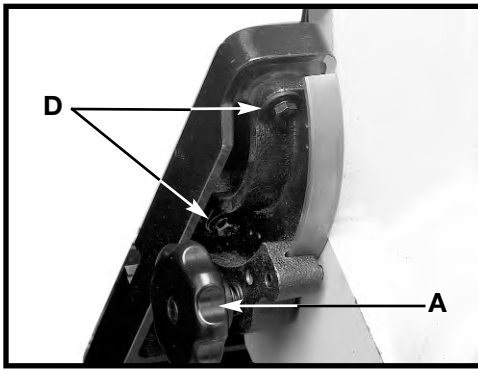

Fig. 36
- To adjust, loosen the four screws, two of which are shown at (D) Fig. 36. Adjust the table until the miter gauge slot is parallel to the disc. Tighten the four screws (D).
NOTE: When making this adjustment, tighten the lock handle (A) Fig. 36.